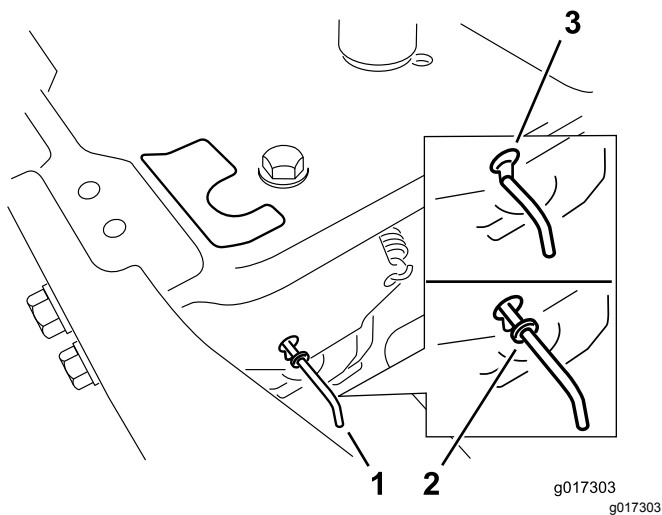

Figure 18
4. Move the bypass levers forward through the key hole and down to lock them in place (Figure 18).
Move the bypass levers rearward through the key hole and down to lock them in place as shown in Figure 18.